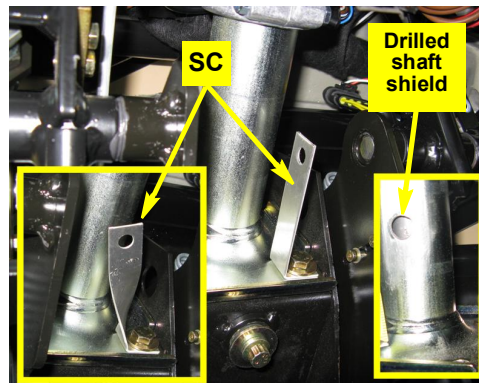

Figure 1d: Shield flange stud and drilled hole
- d. Remove the bottom right steering shaft shield flange bolt. Mount bracket SC on the bolt (Figure 1d) and twist and bend it to align squarely with the shaft shield (Figure 1d, left inset). Using the bracket as a template, mark the shield then drill a 1/2" hole in the shield (Figure 1d, right inset - the hole center will be approximately 2 3/4" from the base of the shield)